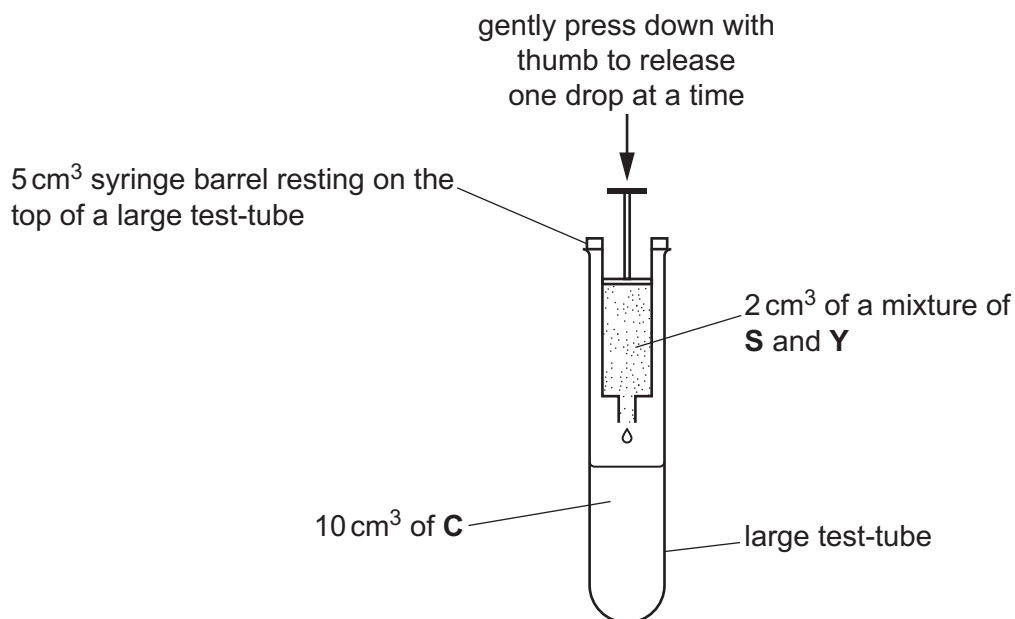

Fig. 1.1
step 5 Position the 5 cm^3 syringe over the **large** test-tube containing **C** as shown in Fig. 1.1.